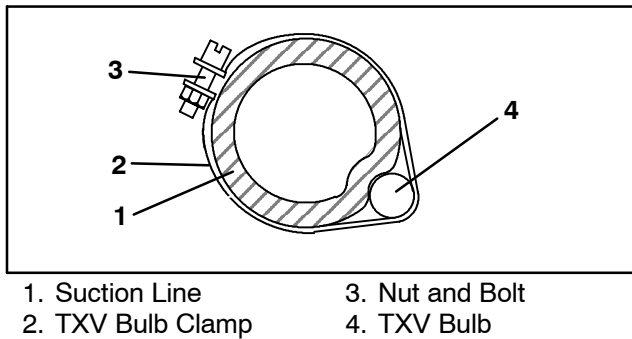

Figure 40. Thermostatic Expansion Valve Bulb
Unless the valve is defective, it seldom requires maintenance other than periodic inspection to ensure that the thermal bulb is tightly secured to the suction line and wrapped with insulating compound. (See Figure 40.)
2. Strap the thermal bulb to the suction line, making sure bulb is placed firmly into the suction line. See Figure 40 for bulb placement.